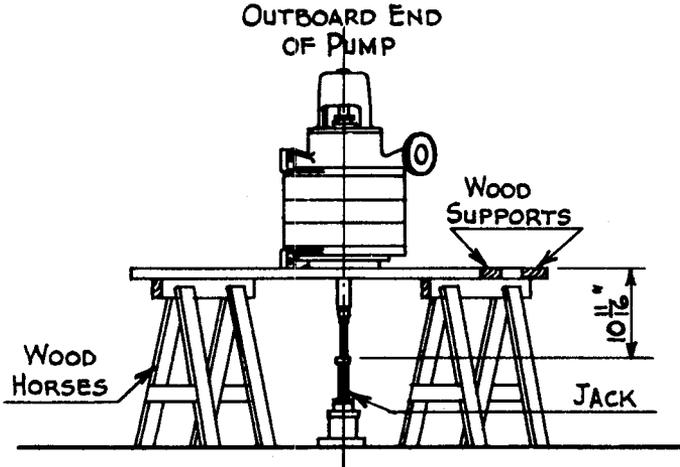

Fig. 14
The best position for assembling the pump is in a vertical position. Illustration, Figure 14 describes the suggested equipment.
- 2—Shaft (7), Inboard Impeller (1A) and first Spacer Sleeve (48) are then assembled to one another and this partial rotor assembly is set into place. (When using jack, see Figure 14, place driving or inboard end of shaft directly on jack.)
- 3—Shellac gasket surface on Suction Cover (14) and place Gasket (501) evenly into place making sure bolt holes conform with Suction Cover.
- 6—Assemble second stage Intermediate Impeller (1C) and the second Spacer Sleeve (48) into position on shaft.
- 7—Shellac gasket surface on first stage Intermediate Volute (4E) and place Gasket (501).
Adjustments for free rotor rotation in relation to casing parts can be made by raising or lowering Adjuster. See Figure 14.